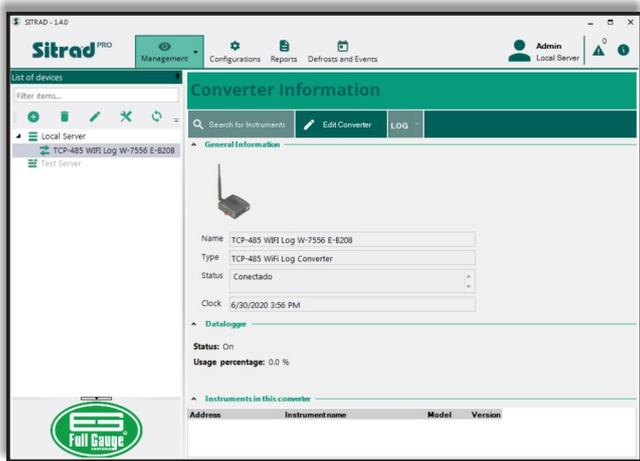

Figure 29
Step 5: Once registered, the converter will appear linked to the chosen server on the **Device List** tab. When selected, the **Converter Information** tab is displayed (Figure 29). To register the instruments that are in the RS-485 network of this new converter, click on the **Search Instruments** button.